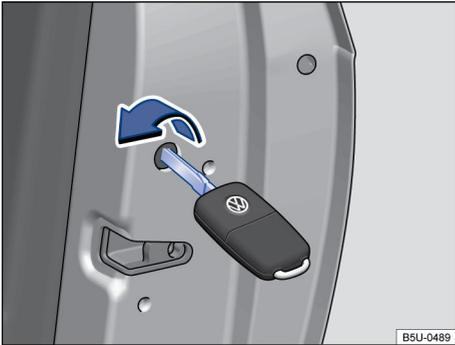

Fig. 45 Emergency vehicle locking with the vehicle key.
- Insert the key bit into the slot → Fig. 45 and turn clockwise (towards vehicle) until reaching the stop.